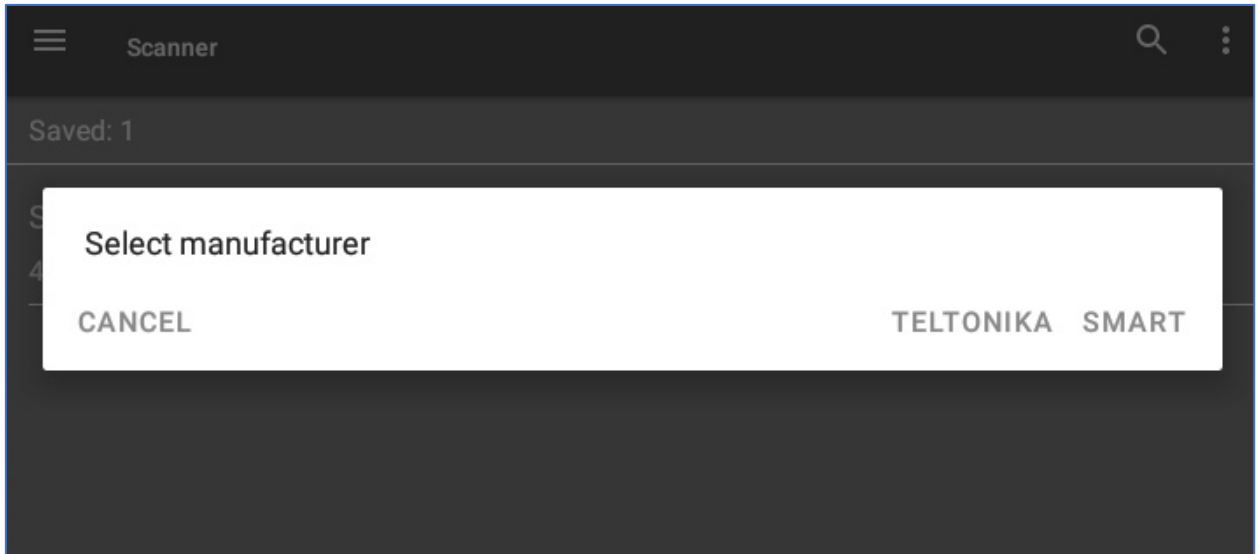

fig.3.6. Selecting device type
- 6) Select the device type (Teltonika or Smart (for Navtelecom GPS trackers) (fig.3.6).